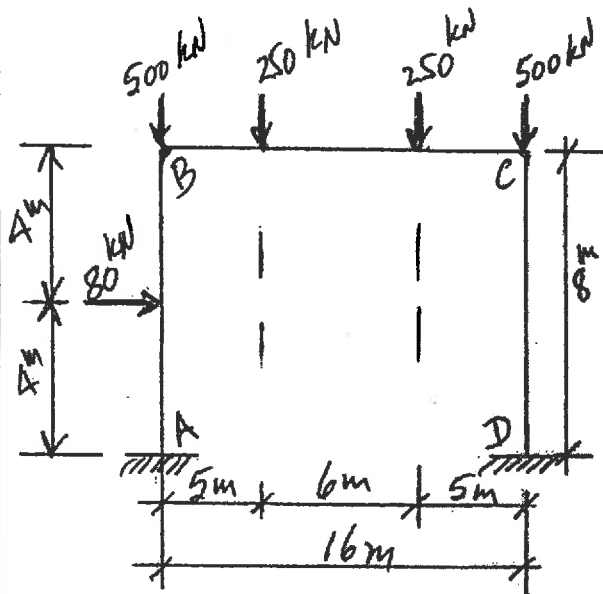

FIGURE 3
3. Figure 3 shows a rigid reinforced concrete frame. Using the Limit States Design Method, design a section for member BC to satisfy moment and shear. Show the layout of the reinforcing.
4. For the reinforced-concrete frame, in Figure 3, determine:
6. The rigid frame in Figure 3 is to be designed in steel using the Plastic Method of Design. All members have the same plastic moment capacity.